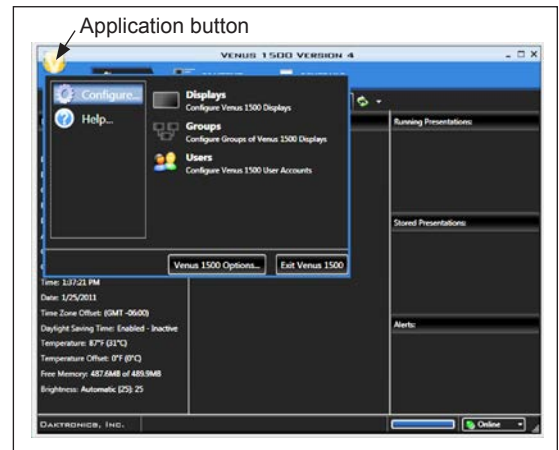

Figure 18: Beginning Display Configuration
2. Click the **Application** button, highlight **Configure**, and click **Displays**. Refer to **Figure 18**.